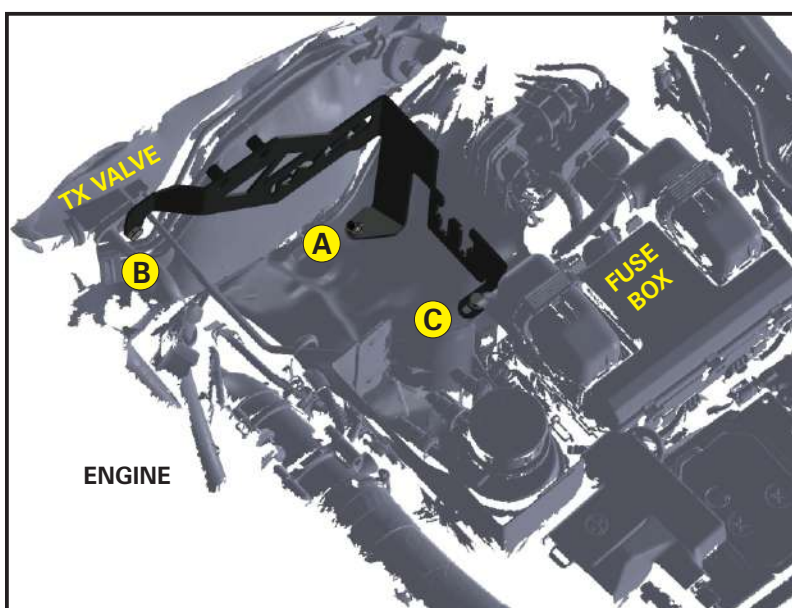

FIG. 1 BRACKET IN ENGINE BAY
2. Locate the stud on the thermal expansion (TX) valve Point **B**. Position the bracket in the engine bay as per Fig. 1, placing point **B** at the TX valve stud and Point **C** at the fuse box stud.